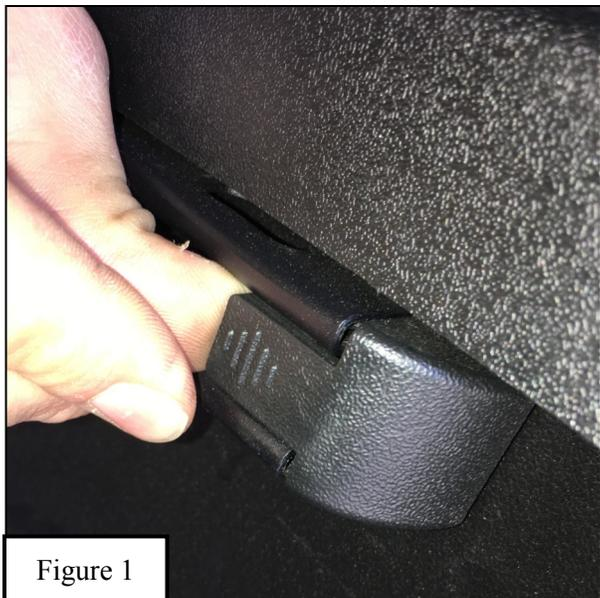

Figure 1
2. Begin by removing the plastic caps on the bed rails and then using a torx bit to remove the rails. **See Figure 1.**